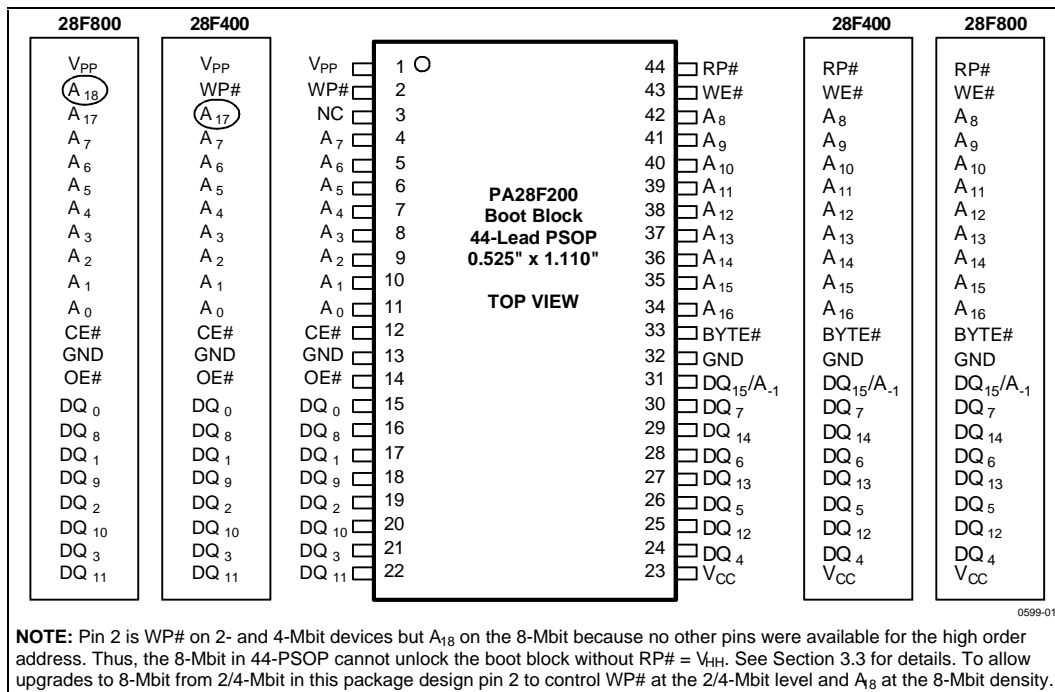
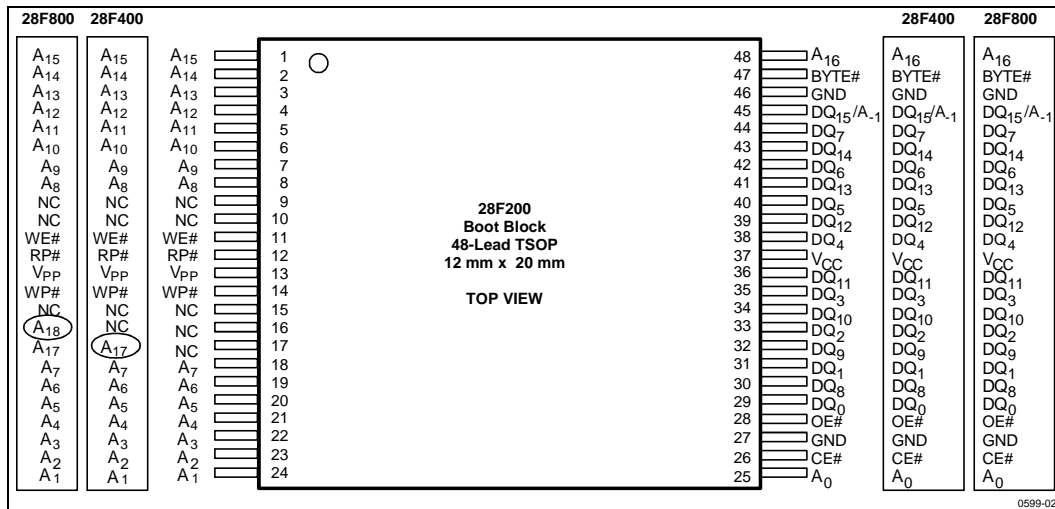

Figure 1. 44-Lead PSOP Pinout Diagram
Figure 2. 48-Lead TSOP Pinout Diagram
-002	<p>Minor changes throughout document.</p> <p>Section 3.1.5 and Figure 14 redone to clarify program/erase operation abort.</p> <p>Information added to Table 2, Figure 1, and Section 3.3 to clarify WP# on 8-Mbit, 44-PSOP.</p> <p>Read and Write Waveforms changed to numbered format.</p> <p>Typical numbers removed from DC Characteristics and Erase/Program Timings.</p>
-003	<p>Minor text changes throughout document.</p> <p>Figure 1, 44-PSOP pinout: mistake on pin 3 on 2-Mbit pinout corrected from A17 to NC.</p> <p>Specs tEHQZ and tGHQZ improved.</p> <p>Explanations of program/erase abort commands reworked in Table 6, Command Codes.</p>
These Smart 5 memory products are available in the 44-lead PSOP (Plastic Small Outline Package), which is ROM/EPROM-compatible, and the 48-lead TSOP (Thin Small Outline Package, 1.2 mm thick) as shown in Figure 1, and 2, respectively.
Intel's Smart 5 boot block architecture provides upgrade paths in each package pinout up to the 8-Mbit density. The 44-lead PSOP pinout follows the industry-standard ROM/EPROM pinout, as shown in Figure 1. Designs with space concerns should consider the 48-lead pinout shown in Figure 2. Applications using an 8-bit bus can use the 40-lead TSOP, which is available for the 4-Mbit device only.